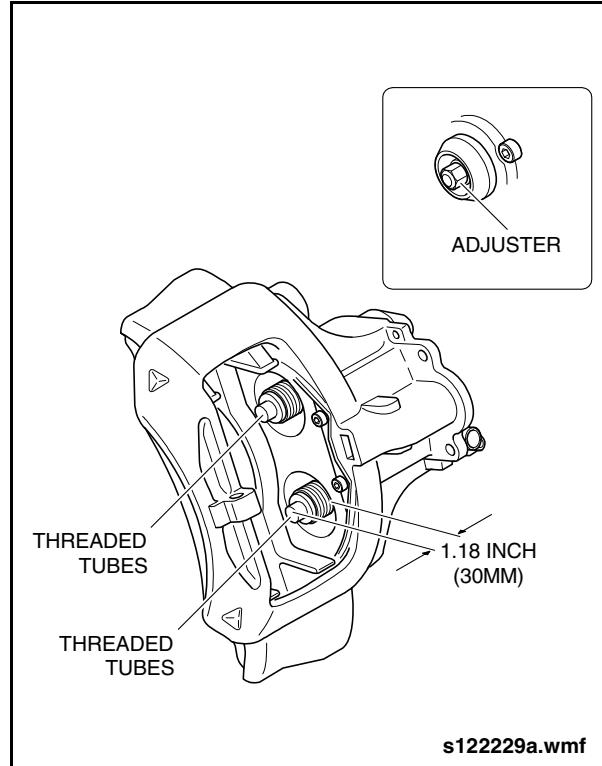

Fig. 1-70: Inspecting Threaded Tubes
1. Rotate the adjuster clockwise until the end of the threaded sleeve extends 1.18" (30 mm) from the caliper surface. See "Fig. 1-70: Inspecting Threaded Tubes" on page 67.